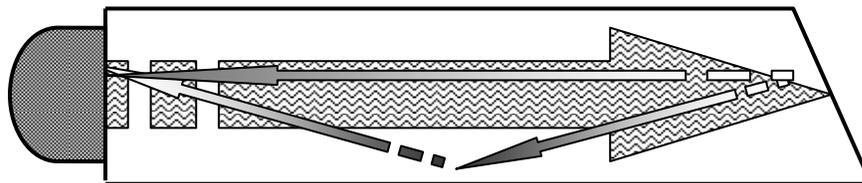

Figure 7
- Reflecting bolt ends not perpendicular to the axis of the bolt. Sonic energy will be reflected toward the sidewall of the bolt, as shown in Figure 7.